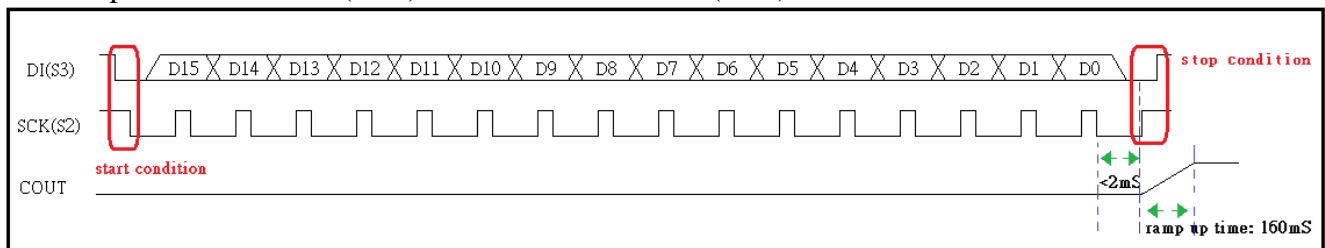

Fig. 15 Power-Up command timing
- a. Command timing reference Fig. 15 Power-Up command timing.